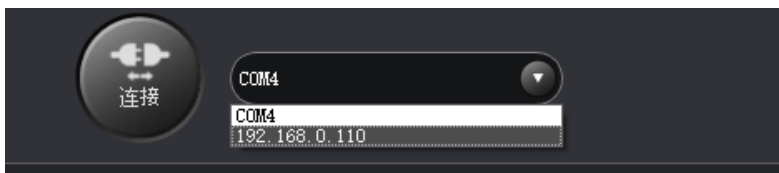

Figure 5.180 IP address of Dobot Magician
Step 8 After 2 seconds later, select the IP address from the drop-down list on the upper left pane of the DobotStudio page and click **Connect**, as shown in Figure 5.180.